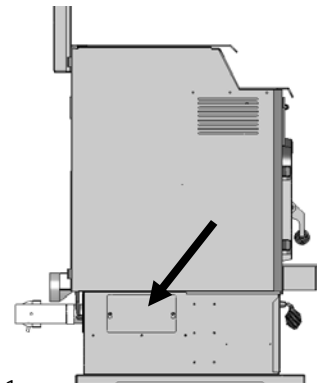

Figure 1
4. Locate left side clean out panel (below firebox side panel). Figure 1. Loosen screws and remove panel. Vacuum area behind clean out panel.